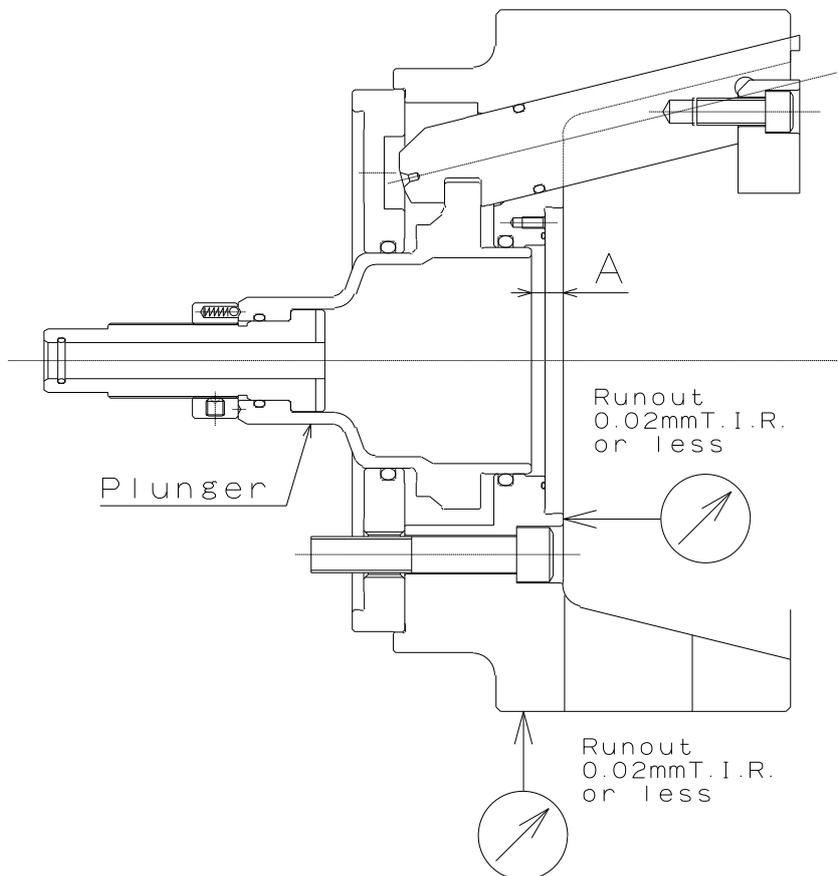

Fig.12
- The appropriate position of the plunger at the cylinder forward end is the position when the dimension A in Fig.12 becomes as shown in the table below.